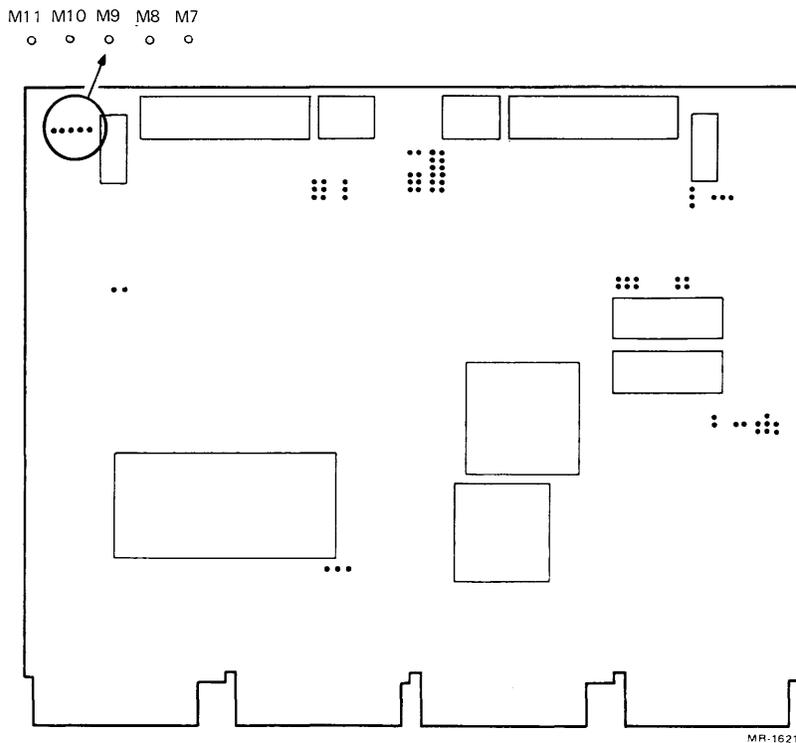

Figure 2-7 DMA Requests
DMA requests to the on-board DMA transfer controller (DTC) may come from several sources. The KXJ11-CA has a set of jumpers that enable or disable DMA requests from: (1) the SLU2 channel A receiver, (2) the SLU2 channel A transmitter, or (3) the on-board 8036 PIO counter/timer. The location of these jumpers is shown in Figure 2-7. Only two of the three sources may be specified (jumpersed) at one time. The two sources that are jumpered as part of the factory configuration are SLU2 channel A receiver and SLU2 channel A transmitter.